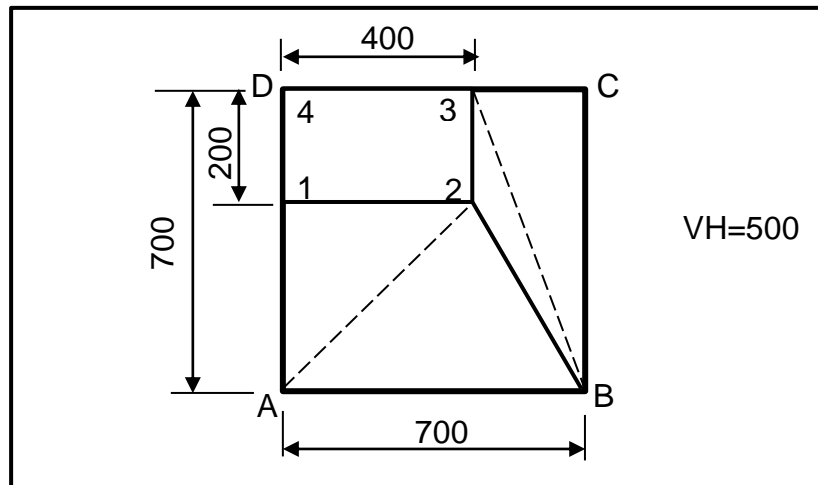

FIGURE 11.2
- 11.2 FIGURE 11.2 below shows a hopper. Answer the questions that follow.
- 11.2.1 Identify the type of hopper in FIGURE 11.2 above. (2)